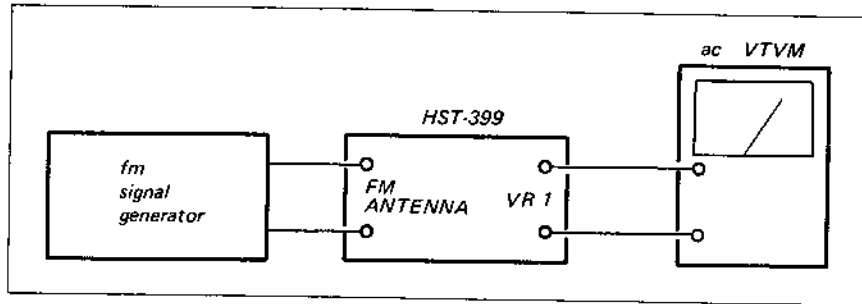

Fig. 3-15 Fm front-end alignment test setup
4. With the equipment connected as shown in Fig. 3-15, set the receiver's controls as follows: